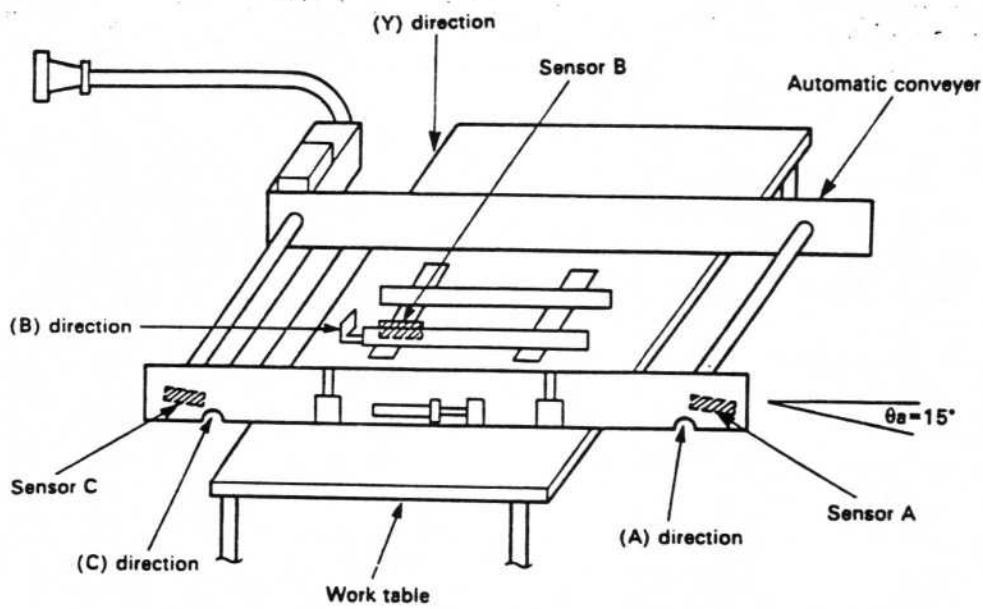
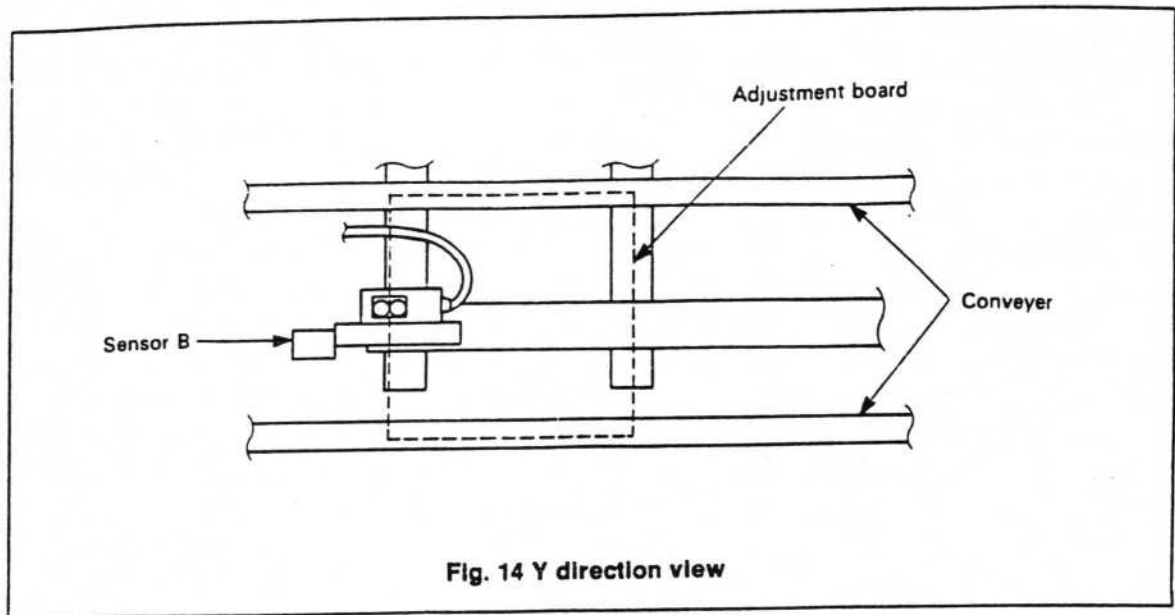

Fig. 13
Fig. 14 Y direction view
- (2) Sensor adjustment is carried out with the work board attached as in Fig. 13.
(3) Set the conveyer width to that of the adjustment board.
(4) Place the adjustment board at the end of the conveyer on the PWB IN side.
(5) From the [A] direction turn the sensor A control towards Min (counterclockwise) and set it at the minimum position.
(6) Turn the control slowly towards Max (clockwise) until the LED goes OFF.
(7) Sensor A adjustment is then complete.
(8) Place the adjustment board at the end of the conveyer on the PWB OUT side.
(9) From the [C] direction, adjust sensor C in the same way as sensor A.
(10) Sensor C adjustment is then complete.
(11) Place the adjustment board on the conveyer so that it covers half the lens surface of sensor B (see Fig. 14).
(12) From the [B] direction, adjust sensor B in the same way as sensor A. (However, note that the LED lights up in the reverse direction of sensors A and C.)
(13) Sensor B adjustment is then complete (all sensor adjustments complete).